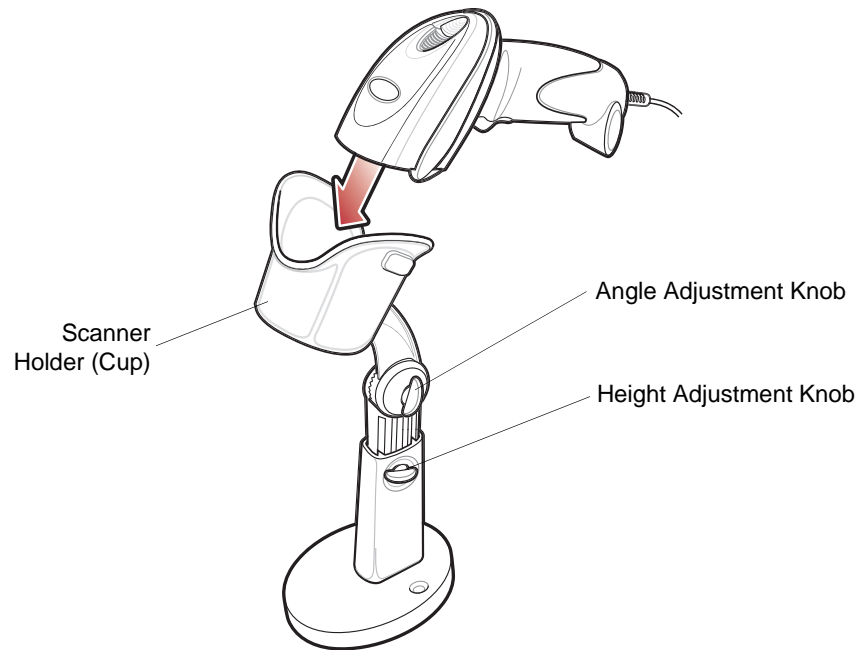

Figure 2-13 *Inserting the Digital Scanner in the Intellistand*
2. Insert the digital scanner in the Intellistand by placing the front of the digital scanner into the stand's "cup" (see Figure 2-13).